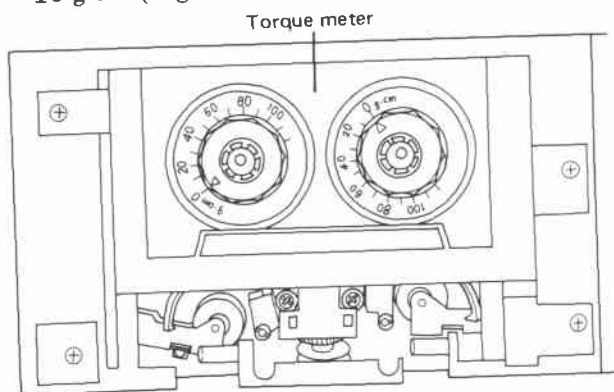

Fig. 11-6 Take-up torque adjustment
5. Check that the take-up torque is within 10 g-cm (Fig. 11-6).